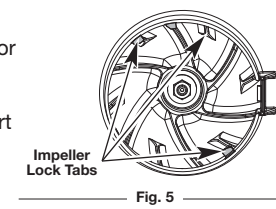
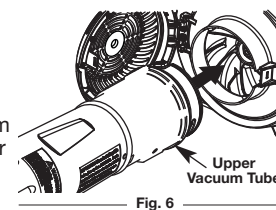

Fig. 5
Fig. 6
2. While holding the impeller door open, align the upper vacuum tube's three (3) slots with the impeller intake's three (3) lock tabs (Fig. 5). Insert the upper vacuum tube into the impeller intake and twist the upper vacuum tube clockwise with both hands until the lock tabs snap into place (Fig. 6).